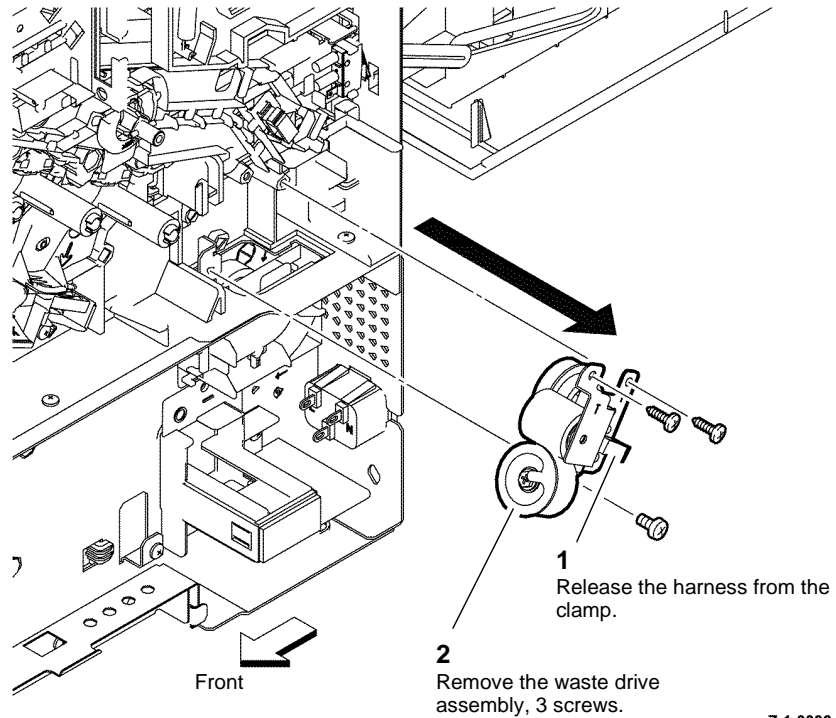

Figure 1 Remove the waste drive assembly
2. Remove the waste drive assembly, Figure 1.